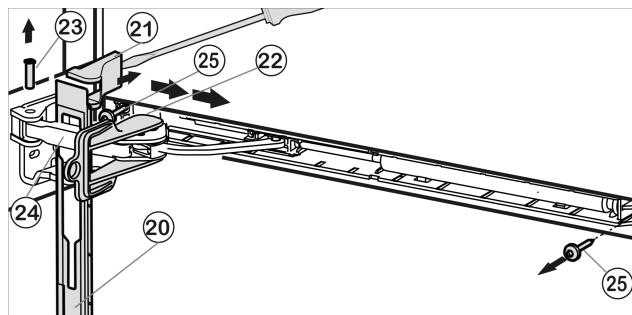

Fig. 10
- Push panel forward over the damper bracket Fig. 10 (24) in the direction of the appliance.
- Engage locking device Fig. 10 (22) into place inside oblong hole.
- Lift off cover Fig. 10 (21) from the outside using a screwdriver and remove by pulling outwards.
- Push bolt Fig. 10 (23) out from below.
- Press damper bracket Fig. 10 (24) in the direction of the door.
- Remove panel Fig. 10 (20).
- Unscrew entire soft stop unit (2 x Torx® 15) Fig. 10 (25).